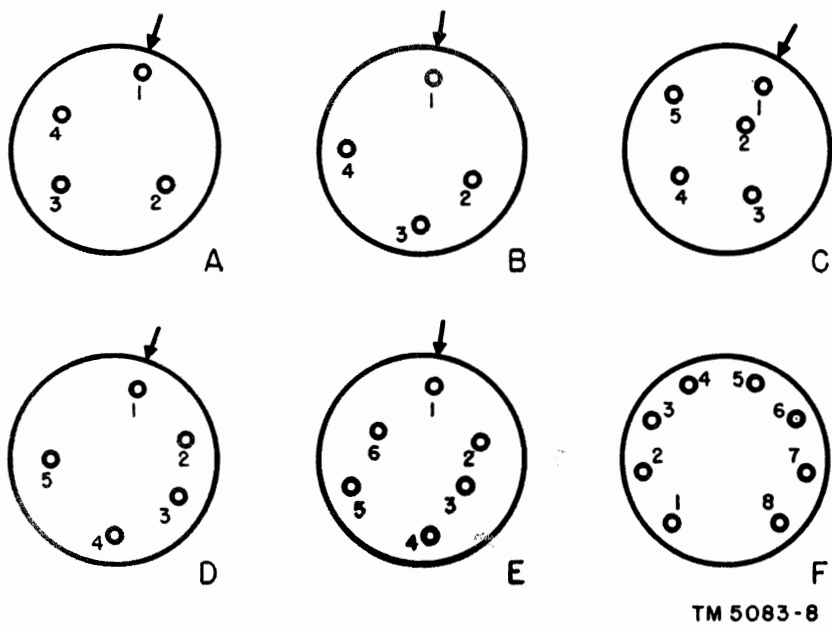

Figure 7. Basing diagrams for subminiature tubes (Letters A, B, C, D, E and F identify basing for use with test data book.)
- (a) There are several basing arrangements used for these tubes as illustrated by figure 7. Examine the tube; identify the basing (fig. 7) and check the *Notations* column in the tube test data book. Proceed as directed in (b) below. On subminiature tube types with long leads, use adapter E104 as directed in (2) below.)
- (3) Subminiature type tubes are identified in the test data book by a star beside the type number. The applicable basing for the various round types is indicated under the column headed *Notations*. The basing designation letter refers to the diagrams shown in figure 7.